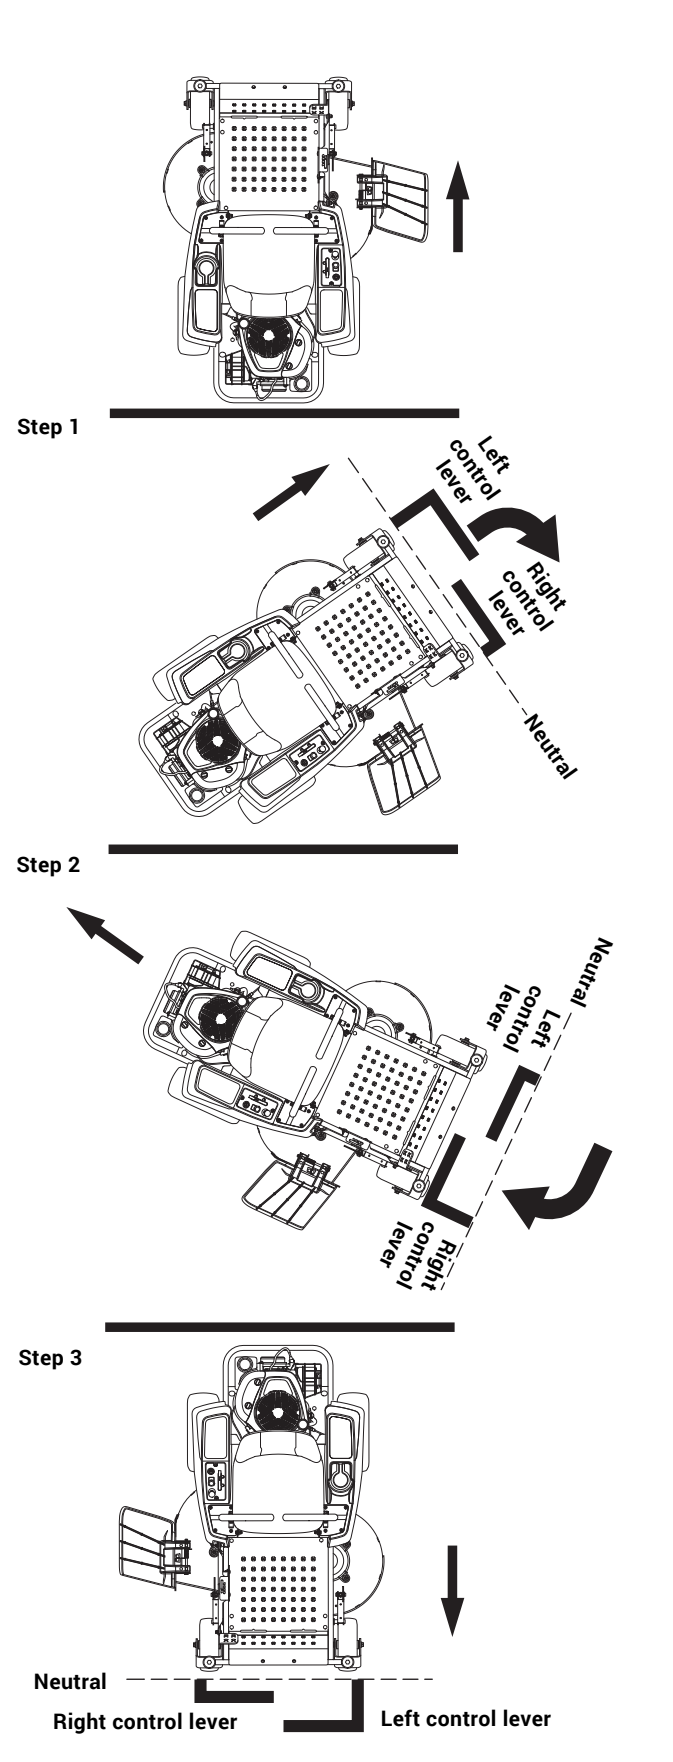

Figure 3-8
1. Move the left steering control lever farther forward from neutral than the right steering control lever and start the turn. Figure 3-8
2. Next, pull back on the steering control levers until they pass neutral and the machine starts to go rearward. Figure 3-8
3. Pull the right steering control lever farther rearward from neutral than the left steering control lever until the rear of the machine pivots around. Figure 3-8
4. Then, push the steering control levers forward until they both pass neutral and the machine starts to go forward. Figure 3-8
5. Push the left steering control lever farther forward from neutral than the right steering control lever and finish the turn. Figure 3-8